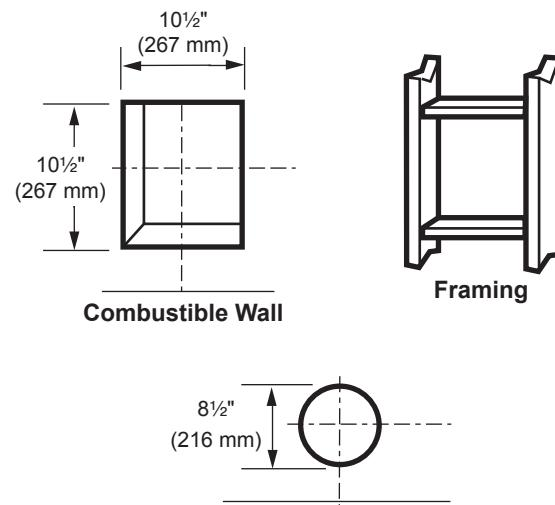

Figure 16 -
Combustible Exterior Walls: Cut a 10½"H x 10½"W (267 x 267 mm) square hole through the exterior wall frame. *Figure 16*
- The center of the hole should align with the center line of the horizontal rigid vent pipe end. Allow 1/4" minimum rise per foot. *Figure 16*